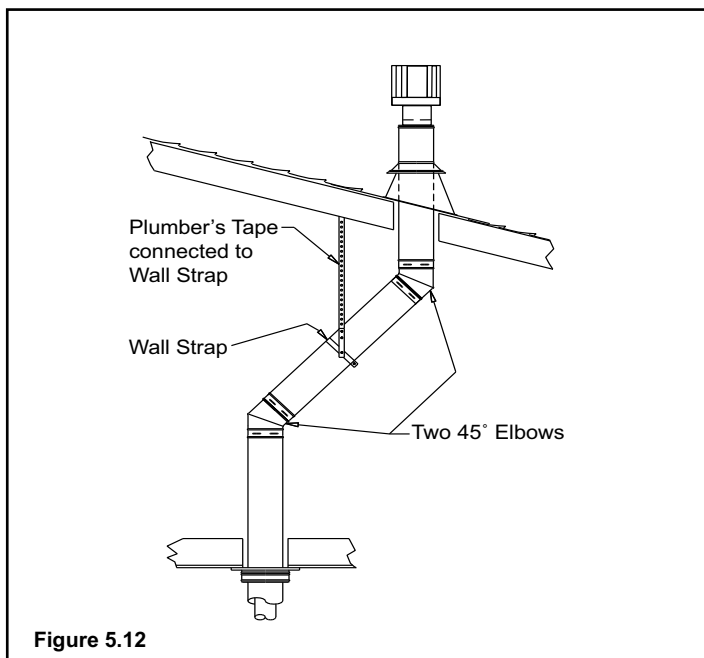

Figure 5.12
Set the gas appliance in its desired location. Drop a plumb bob down from the ceiling to the position of the appliance flue exit, and mark the location where the vent will penetrate the ceiling. Drill a small hole at this point. Next, drop a plumb bob from the roof to the hole previously drilled in the ceiling, and mark the spot where the vent will penetrate the roof. Determine if ceiling joists, roof rafters, or other framing will obstruct the venting system. You may wish to relocate the appliance, or to offset, as shown in **Figure 5.12**, on the next page, to avoid cutting loadbearing members. When location is determined, drill small hole.
- (1) If an offset is necessary in the attic to avoid obstructions, it is important to support the vent pipe every 3 ft. (914mm) to avoid excessive stress on the elbows, and possible separation. Wall straps are available for this purpose, **Figure 5.12**.
- (2) Whenever possible, use 45° elbows, instead of 90° elbows. The 45° elbow offers less restriction to the flow of flue gases and intake air.